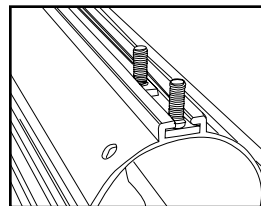

Fig. 8a Slide insert bolts into top slot on the rail. Inserts can be moved to any position along the rail.
- Slide threaded inserts into the slots on top of the rail. See Fig. 8a & 8b. (Note: It may be helpful to insert a screwdriver at the bolt head to keep it stationary.)